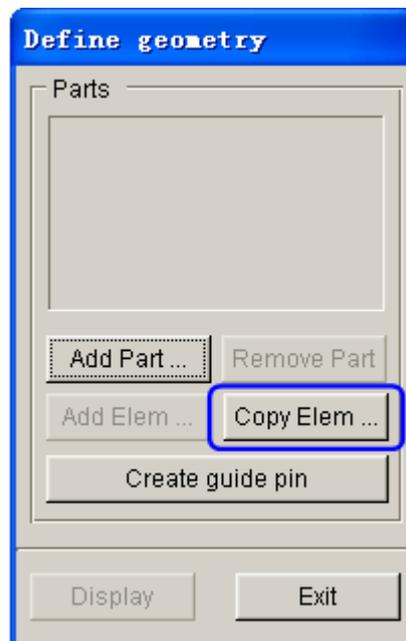

Figure 5.47 Define geometry dialog box
10. Click **Define geometry...** button to display the DEFINE GEOMETRY dialog box illustrated in Figure 5.47.